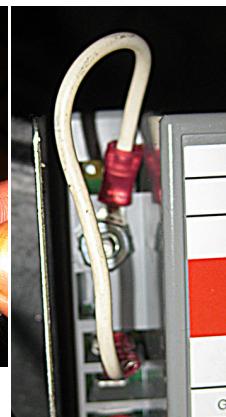

Figure 15
18. On full vat left modules, remove the white ground wire from the old module (see Figure 15).